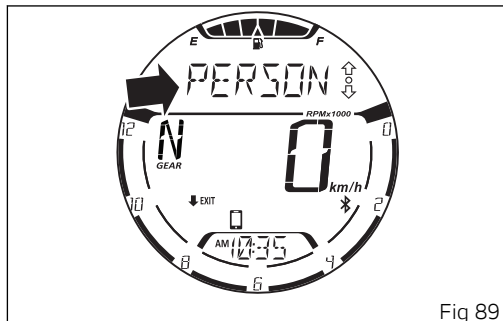

Fig 89
To display the list of calls, press button (4). When accessing this function, the display will show the name or number of the last call (Fig 89).